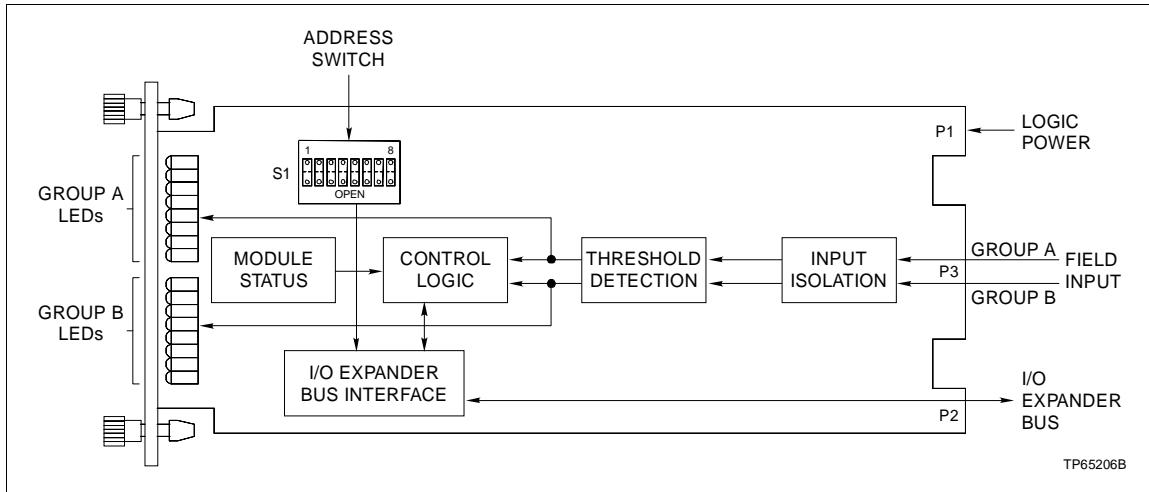

Figure 2-1. Digital Input Module Block Diagram
This section explains the inputs and input circuitry, control logic, logic power and connections for the IMDSI1□ Digital Input modules. The DSI is a digital input interface to a multi-function processor (MFP), multi-function controller (MFC), or logic master module (LMM). These control modules provide the control functions. A control module communicates with its I/O modules on a I/O expander bus as shown in Figure 1-1. Each I/O module on the I/O expander bus has a unique address set by address dipswitch S1 (Fig. 2-1).
Figure 2-1 is a block diagram illustrating signal flow through the module. The input isolation block consists of current limiters and optocouplers to isolate the 16 field inputs from the module circuitry. The input circuits provide 1500 VDC isolation between input and logic circuitry and other input channels. Refer to Table 1-5.
The contact input signals connect to the 30-pin card edge connector (P3), shown in Figure 2-1, using a termination cable from a termination unit or termination module.
Function Code (FC) 84 in the control module configuration accesses the DSI on the I/O expander bus. It also allows the control module to automatically read point (input) data or status data from the DSI. This data is output by the buffer circuits (control logic) to the I/O expander bus interface (Fig. 2-1). The I/O address in FC 84 must be the same as the address set on address dipswitch (S1).
Logic power (+5 VDC) drives the DSI circuits. It connects through the top 12-pin card edge connector (P1) shown in Figure 2-1.